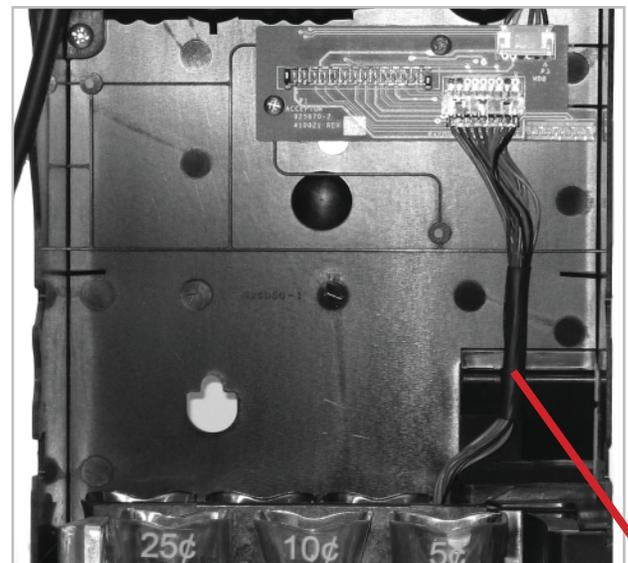

Figure 60
12. If not already done, remove acceptor or pivot it open. Make sure the harness is inserted back into the notch in the front of the cashbox chute. See Figure 60.